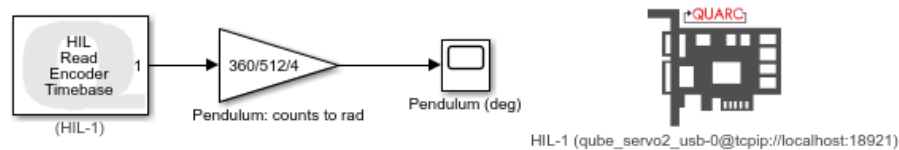

Figure 2.1: Displays measured pendulum angle
Based on the model already designed in Hardware Interfacing laboratory experiment, design a model that measures the pendulum angle using the encoder as shown in Figure 2.1.
2. Use the supplied **SIMULINK®** model shown in Figure 2.1 or design your own. Enter $360/(512 \cdot 4)$ in the encoder sensor gain to measure the pendulum angle in degrees.